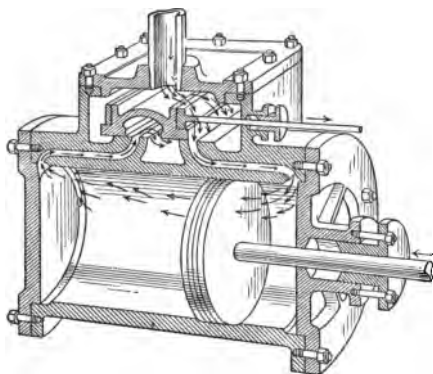

FIG. 185. — Slide-valve steam engine.
**216. Steam engine.** The type of engine most commonly used for small plants and for locomotives is the **slide-valve engine** (Fig. 185). Steam comes from the boiler into a box or steam chest, and then into the working end of the cylinder